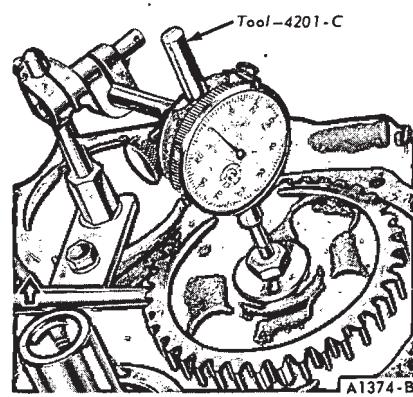

FIG. 28—Checking Camshaft End Play
15. Push the camshaft toward the rear of the engine. Install a dial indicator so that the indicator point is on the camshaft sprocket cap screw (Fig. 28). Zero the dial indicator. Position a large screw driver between the camshaft sprocket and the block. Pull the camshaft forward and release it. Compare the dial indicator reading with specifications. If the end play is excessive, replace the thrust plate.